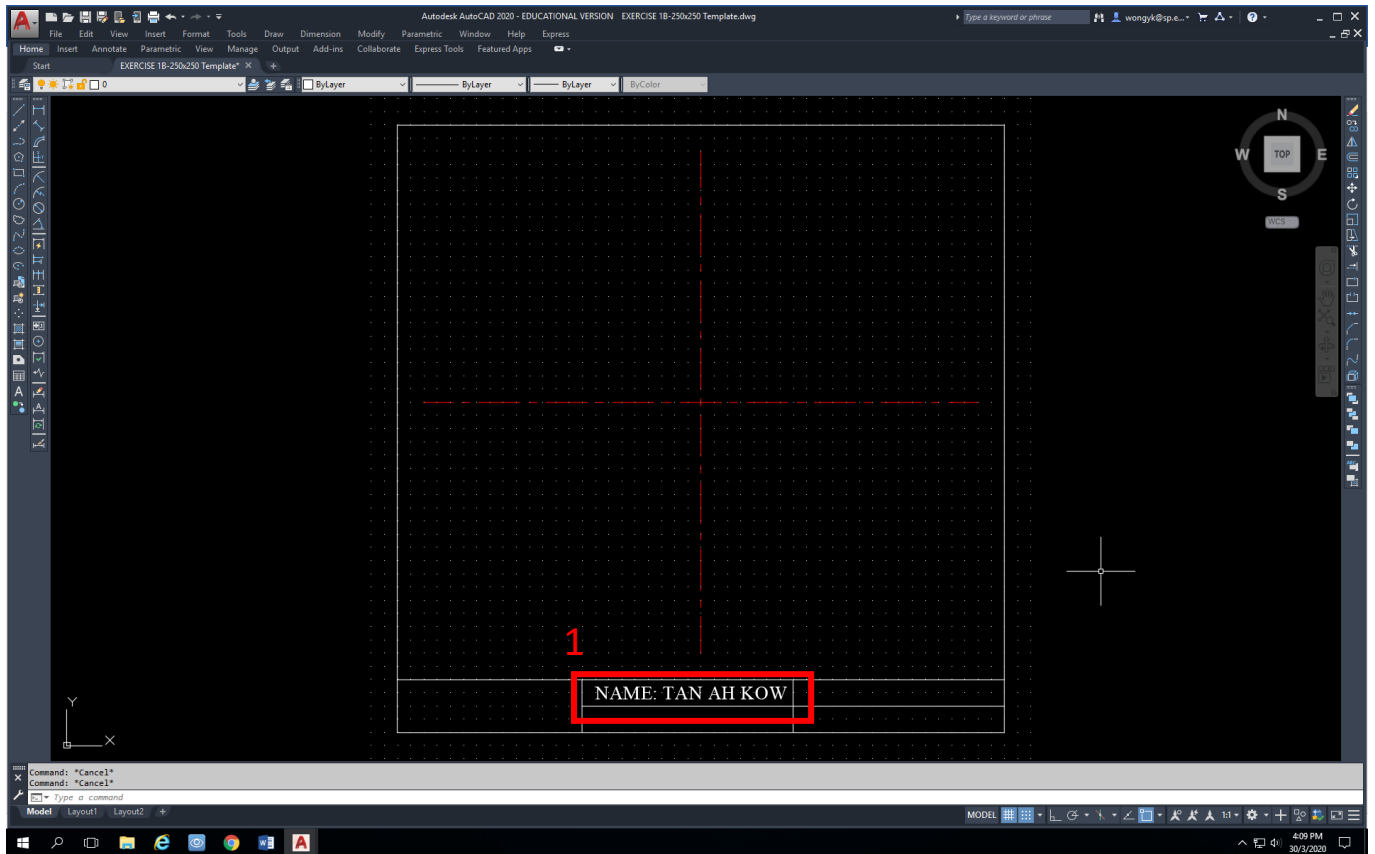

Fig 11
- ix. See Fig 11 for the completed text in the middle box of Title Block **(1)**.